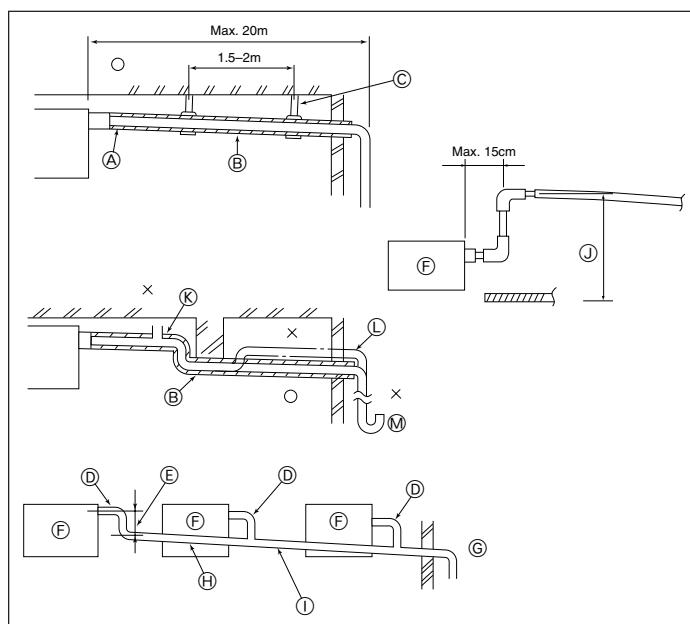

Fig. 3-4
- ① Wrap the enclosed large-sized pipe cover around the gas pipe, making sure that the end of the pipe cover touches the side of the unit.
- ② Wrap the enclosed small-sized pipe cover around the liquid pipe, making sure that the end of the pipe cover touches the side of the unit.
- ③ Secure both ends of each pipe cover with the enclosed bands. (Attach the bands 20 mm from the ends of the pipe cover.)
3.4. Drainage piping work (Fig. 3-4)
- ① Correct piping
- ② Wrong piping
- ③ Insulation (9 mm or more)
- ④ Downward slope (1/100 or more)
- ⑤ Support metal
- ⑥ Air bleeder